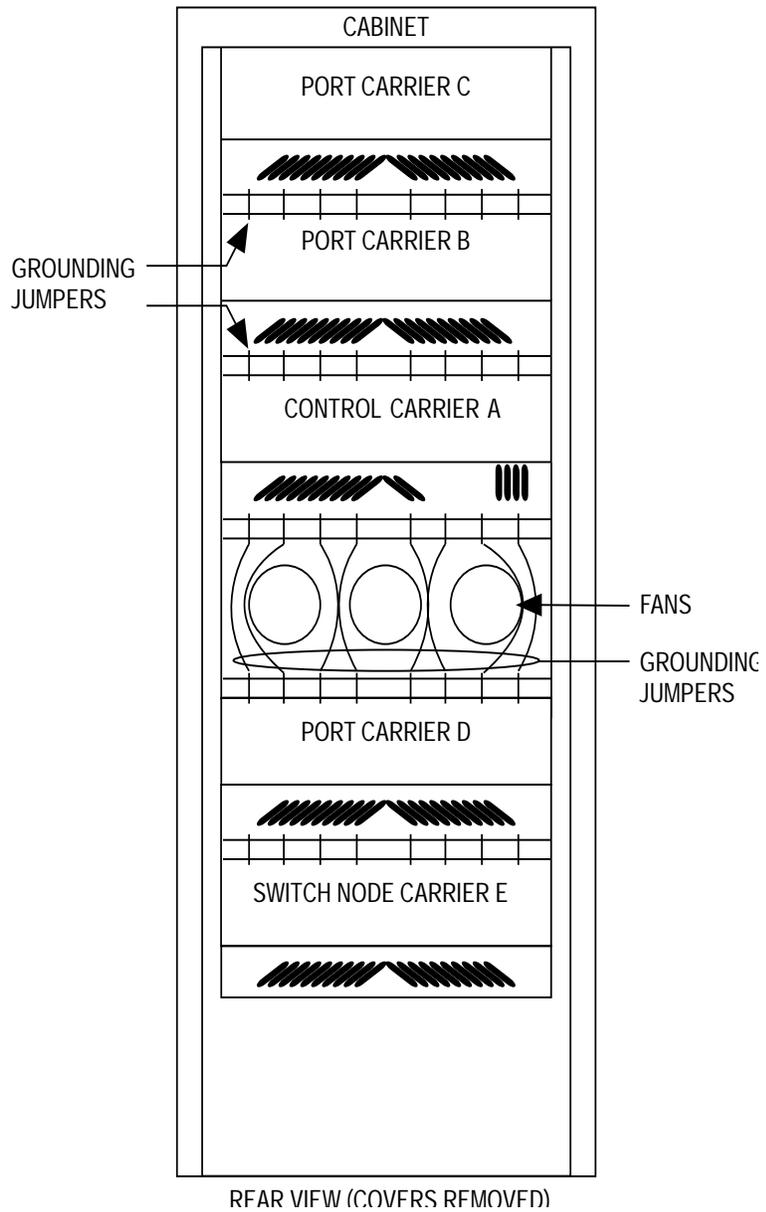

Figure 4-18. Locations of Grounding Jumpers
3. Disconnect one end of the eight ground straps (between the “D” and “E” carriers) from the “D” carrier (See Figure 4-18). These straps will be reconnected to the new “D” carrier.
4. Disconnect one end of the eight ground straps (between the “D” and “A” carriers) from the “D” carrier (See Figure 4-18). These straps will be reconnected to the new “D” carrier.
5. Connect the eight ground straps from the “E” carrier to the new “D” carrier (See Figure 4-18). These straps were left connected to the “E” carrier when the old “D” carrier was removed.
6. Connect the eight ground straps from the “A” carrier to the new “D” carrier (See Figure 4-18). These straps were left connected to the “A” carrier when the old “D” carrier was removed.